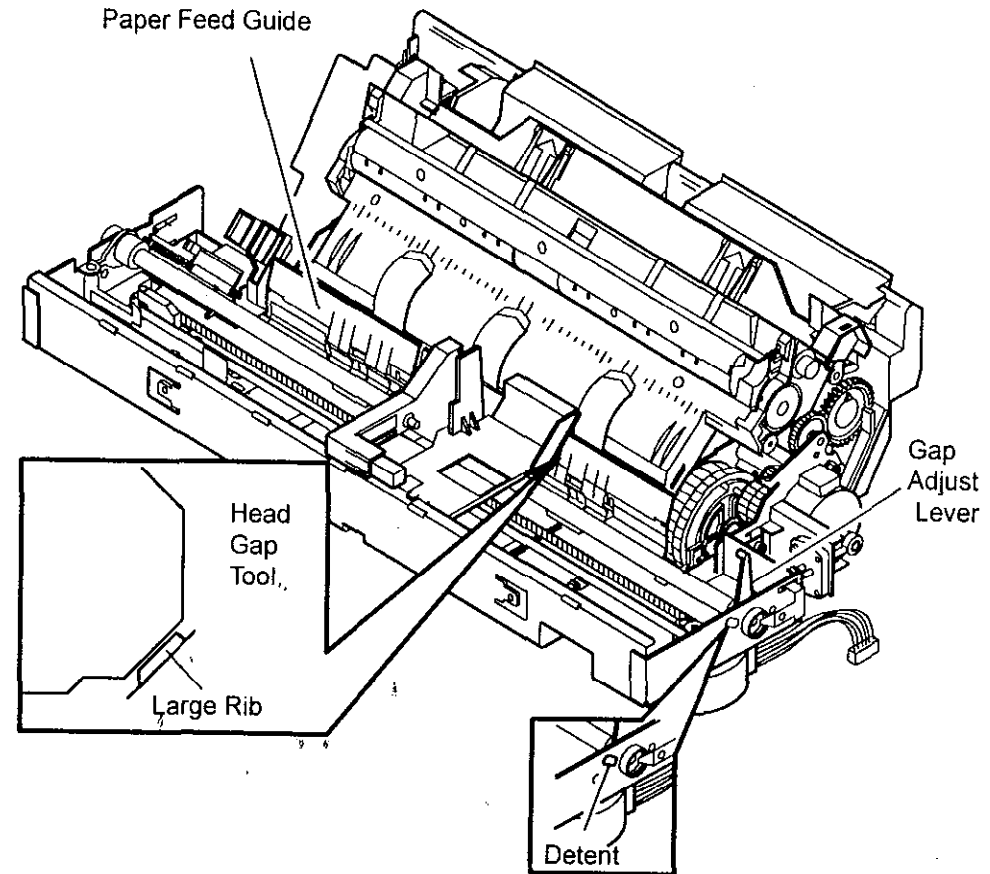

**Figure 1** Installing the Head Gap Tool
2. Install the Head Gap Tool into the Carriage (Figure 1).